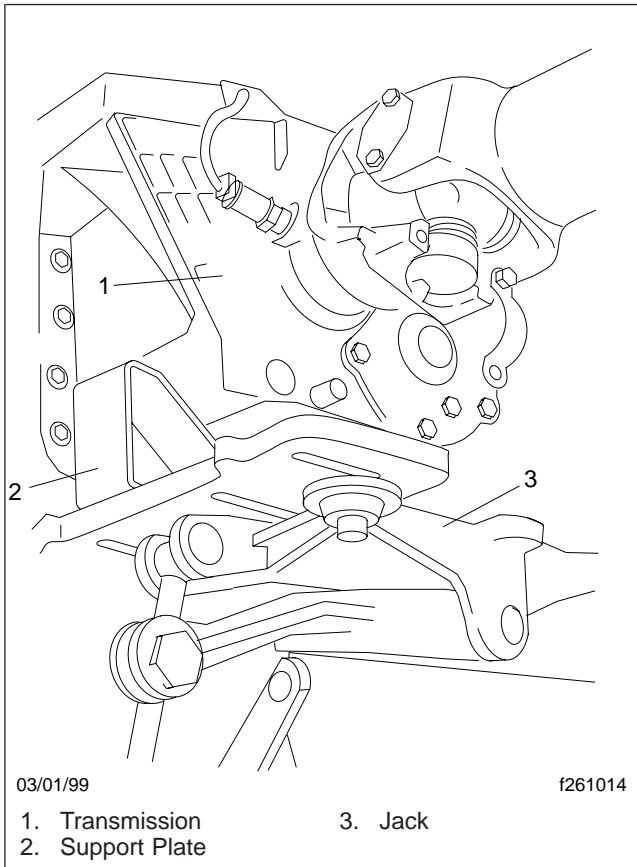

Fig. 11, Supporting the Transmission
13. Support the transmission with a jack. See Fig. 11.